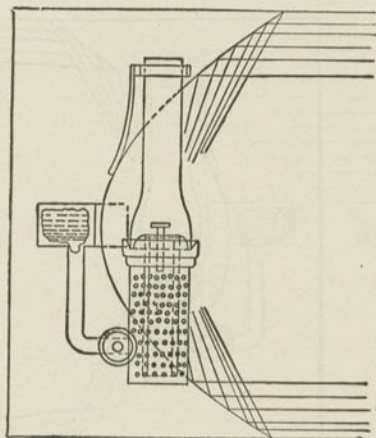

Fig. 314.
A. The rays will either diverge as in Fig. 314, or converge.
A. (1) To admit air around the flame, thus making the light whiter, (2) to keep the chimney cool.